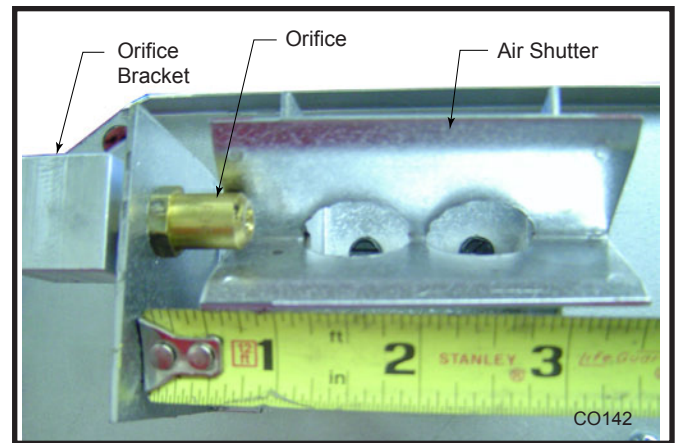

Fig. 83 The air shutter setting is 1/2" (13 mm) from the orifice bracket to the edge of the air shutter.
5. The air shutter is factory set according to Table 3 and should not need adjustment. The air shutter opening may be verified by measuring as shown in Figure 83.
2. Lift the Stove Front up and then swing the bottom out to disengage it from the heater shell. (Fig. 83)
1. Remove the Front, Glass Frame and Glass Panel. (Figs. 83 & 84) Remove the old gasket. Use a razor blade to separate the glass and gasket from the frame, and to clean the glass of any remaining cement or bits of gasket. Use a cold chisel if necessary.